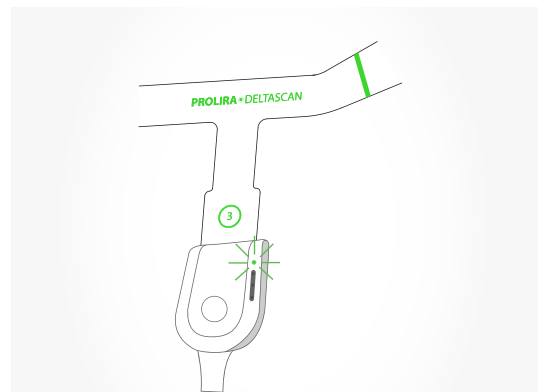

Figure 20: The Connection-LED is green if the DeltaScan Patch is well connected.
- Check if the Connection-LED (the top LED on the Patch connector) turns green, to indicate that the Patch is well connected (see Figure 20).